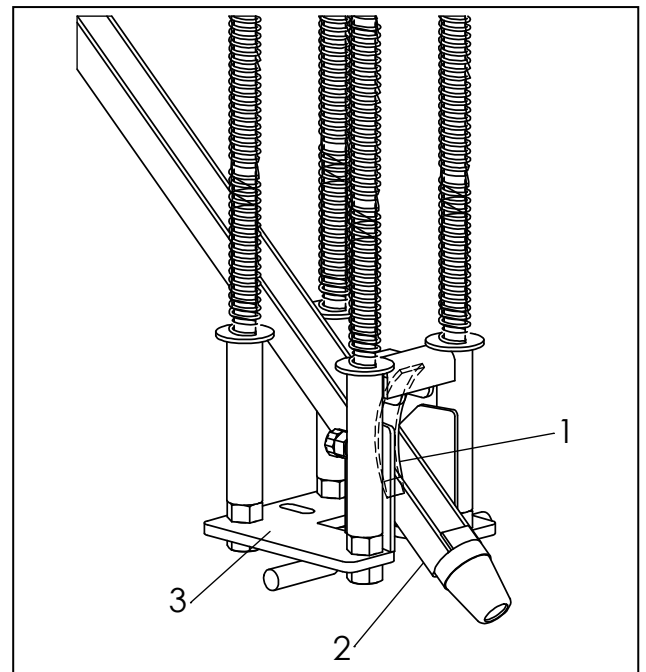

FIGURE 4
4. To install probe, rotate scraper (1) forward and install probe (2) on an angle through probe guide (3) as shown in **Figure 4**.